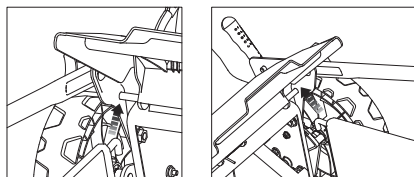

Fig. 7
2. Open the deflector guard (19) and hold it in the open position. Hang the grass catcher on the rod. (Fig.7)